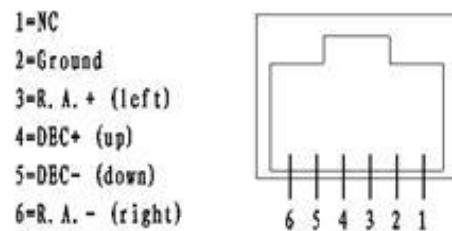

Figure 4. ST-4 Compatible Guiding Port Wiring
- GUIDE: ST-4 compatible autoguiding port. The wiring is shown in Figure 4